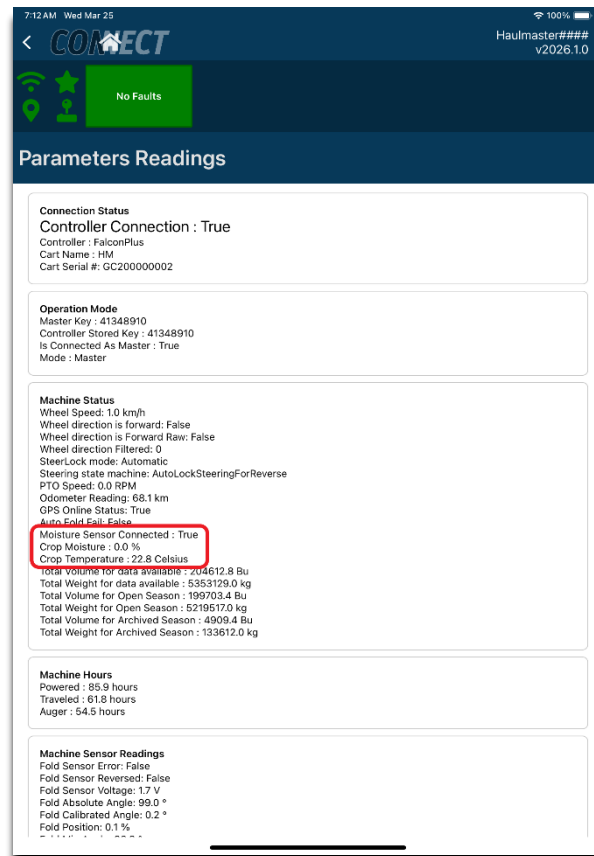

Figure 182 Moisture in Parameters
- Alternatively, ensure the sensor status shows “Moisture Sensor Connected: True” in **Diagnostics**. See Figure 182 on the next page.